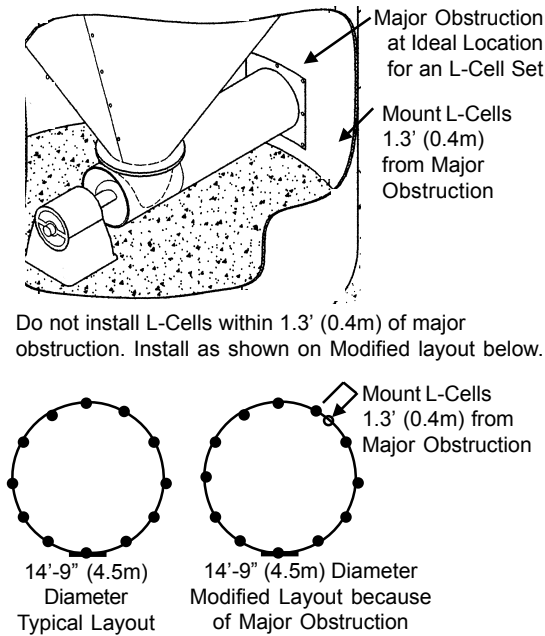

Figure 5-12. Mounting L-Cells in Alternate Locations because of Major Obstructions
- Figure 5-12 shows an example of a **major obstruction**. Do not place an L-Cell set within 1.3' (0.4m) of a major obstruction.